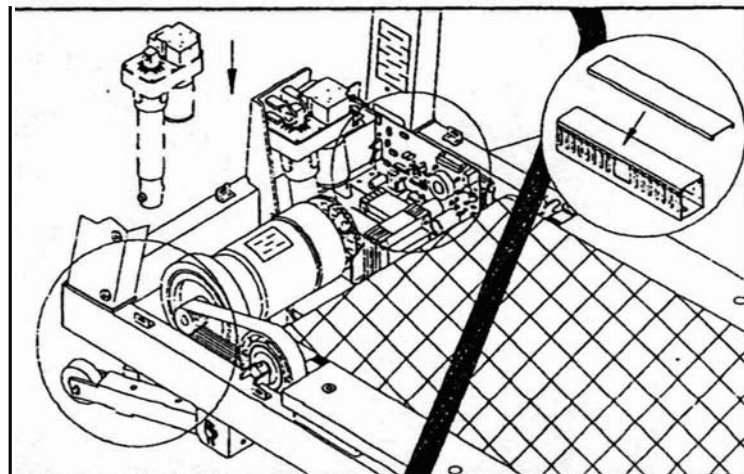

Fig.15
7. Install elevation unit on its place. Insert all wires coming from elevation unit into box. Then put back the cover. (See Fig.15)